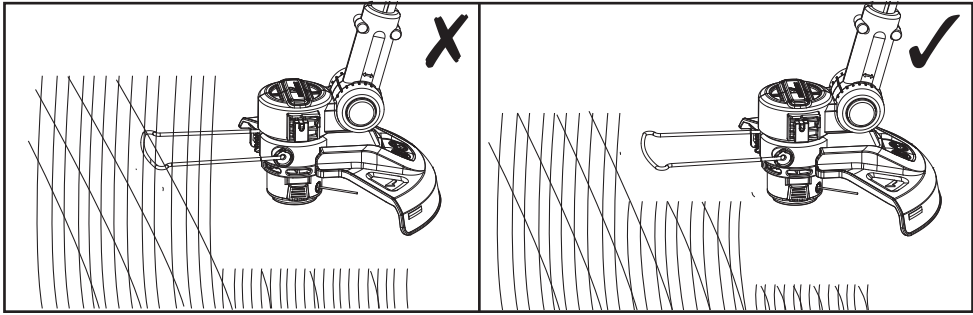

Fig. 9
- Do not allow the spool cap (16) to hit the ground.
- Make sure the machine remains clean and free from off-cuts that may cause it to jam. Check regularly. Release the on/off switch (2) and disconnect the battery pack (19) before checking.
- Trim longer grass in stages; do not cut long grass in one cut. For the best results, cut longer grass in steps (Fig. 9).